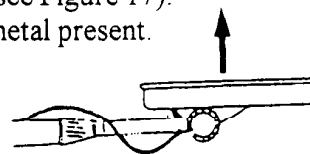

Figure 17
1. After removing watches, rings or any other metal jewelry, place the detector on a wooden or plastic table. Adjust the search coil's angle so that the flat part faces upward (see Figure 17).